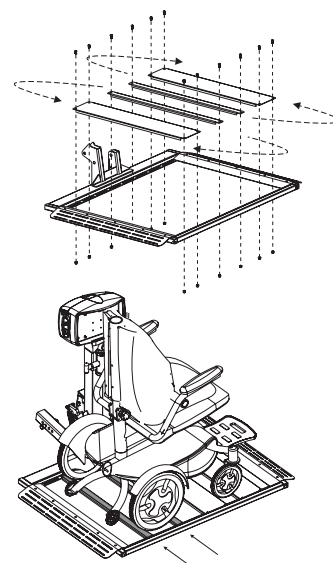

Figure 6-9
2. Position the chair onto the platform. Verify that the chair is secure and does not move in any direction once positioned between the platform skins and the cradles. *See Figure 6-9.*